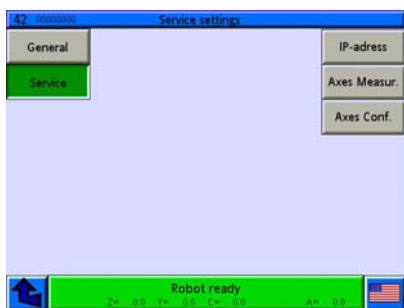

Fig. 27
- Press buttons **Machine Data** → **Service** to display the page of the 2nd data group (see Fig. 27).